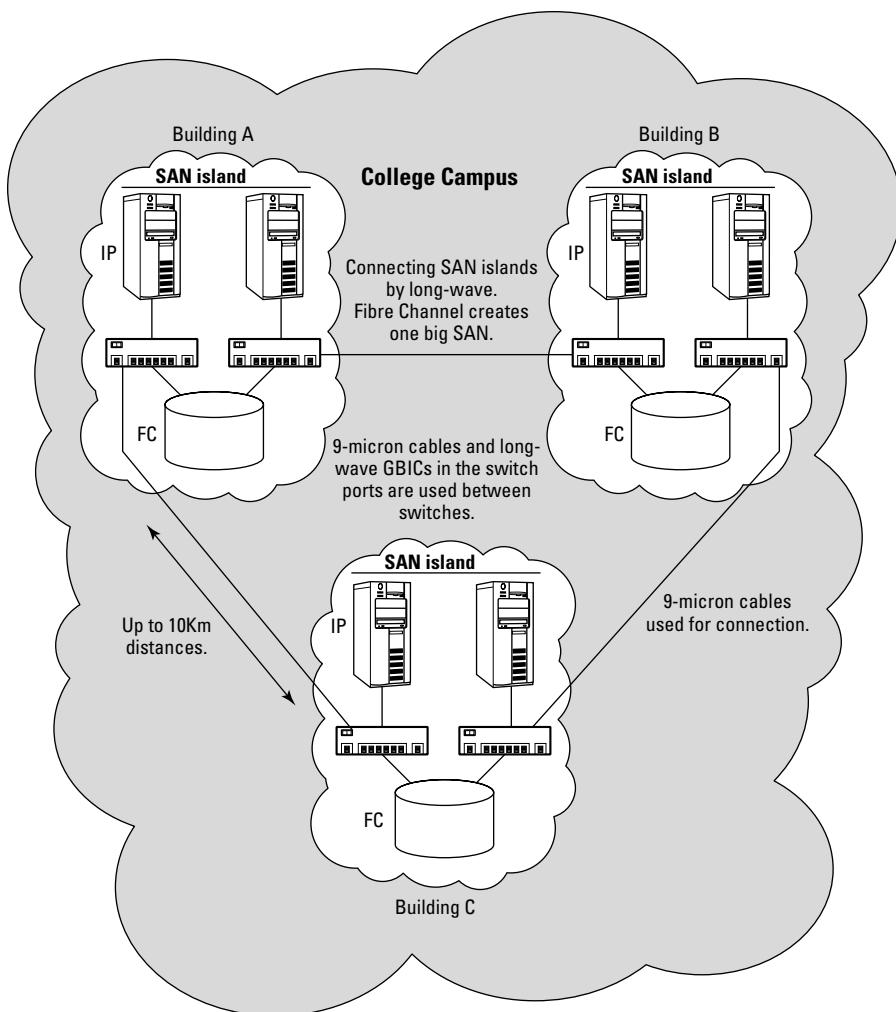

Figure 8-6:
- ✓ **Long-wave fiber connections between switches:** If you use 9µm Fibre Channel cables with long-wave single-mode lasers between switch ports, the distance between switches in a single fabric can be up to 10 km. You can run 9µm single-mode Fibre Channel cables directly between the switches to each location, as shown in Figure 8-6. Because you need a higher-powered laser to connect over a long distance, long-wave Gigabit Interface Converters (GBIC) are used in the ports that connect the switches. Better bring your wallet, though; those long-wave GBICS and 9µm cables can be fairly expensive!